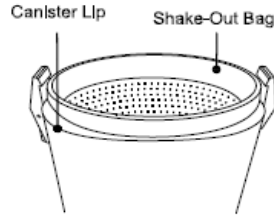

Fig. 4
1. Remove the Shake-out bag from the canister. Hold the handle on the bottom of the bag, shaking vigorously over a garbage receptacle and preferably outdoors. (Fig. 4)